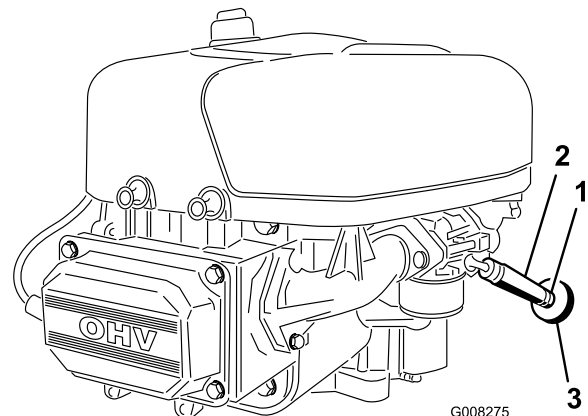

Figure 28
7. Loosen the hose clamp at the fuel filter and slide it up the fuel line away from the fuel filter (Figure 28).
8. Pull the fuel line off the fuel filter (Figure 28).
11. Slide the hose clamp close to the fuel filter to secure the fuel line (Figure 28).
The best time to replace the fuel filter (Figure 28) is when the fuel tank is empty. Never install a dirty fuel filter after it has been removed from the fuel line.